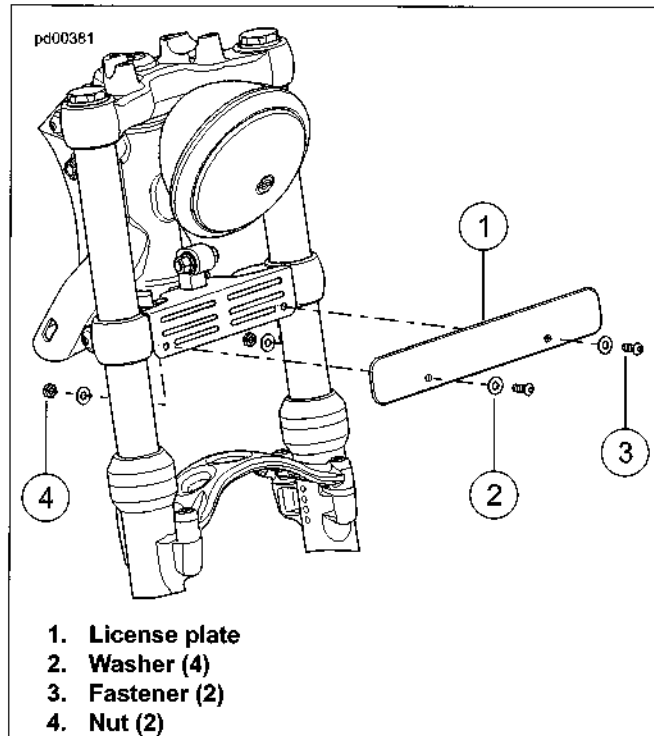

Figure 2-137. License Plate Mount: XL 1200X/C (India)
- See Figure 2-137. Install license plate (1) to license plate bracket and secure with fasteners (3), washers (2) and nuts (4).